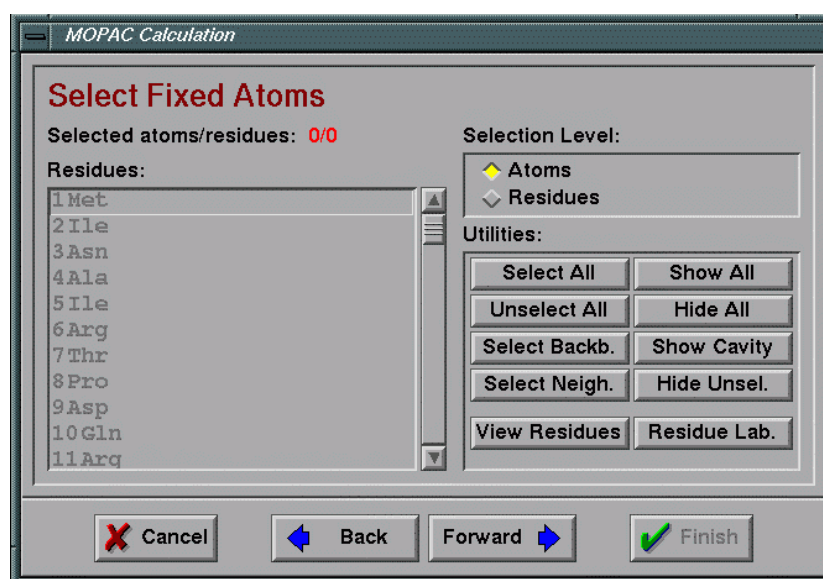

Fig 14.8 Window for selection of fixed atoms
- 7) Select the atoms to be fixed during the calculation (**Fig 14.8**). Some atoms of the model may need to be fixed in order to simulate specific structures such as protein backbone. It is recommended to fix the heavy atoms of the backbone and let the side chains move during geometry optimization. Such a model provided satisfactory results for simulating conditions in the enzyme active site during the catalysis.